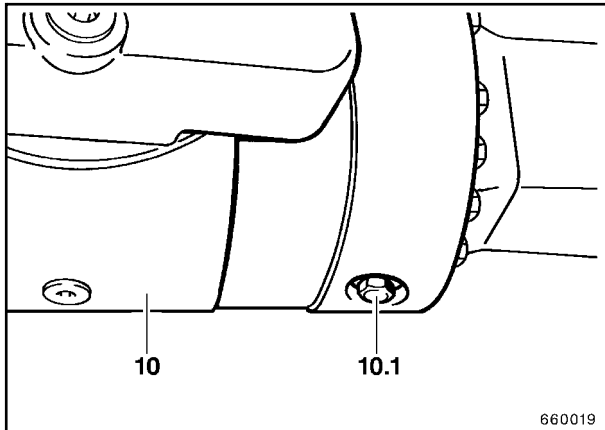

Fig. 9
- When gearbox oil is drained off, unscrew screws (10.1, Fig. 9).